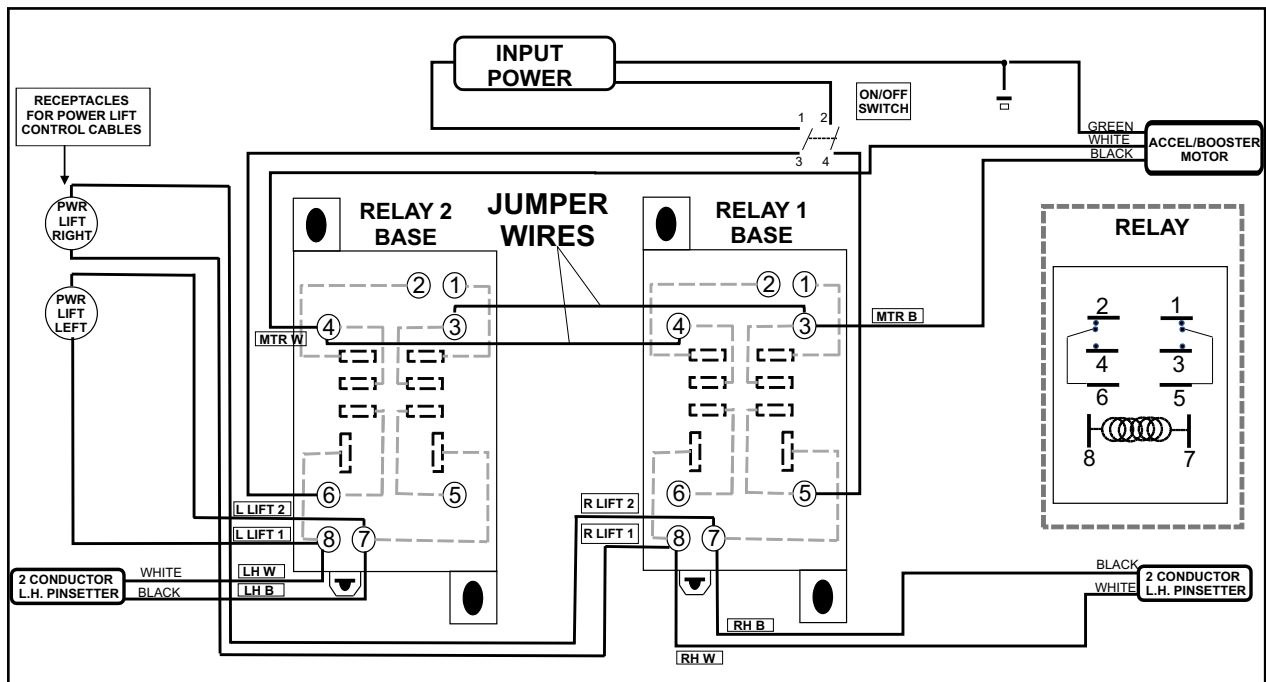

Figure 1. Simplified Wiring Diagram
NOTE: *Figure 1 shows a simplified wiring diagram to assist with installation. Please refer to the wiring schematic in the A2 Service Manual, P/N 12-752828-000, (Figure 65), for wire locations to the original accelerator/booster relays.*
3. Install wires following the new wiring diagram for the relay bases. Refer to *Figure 1*.